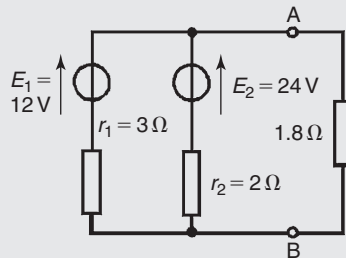
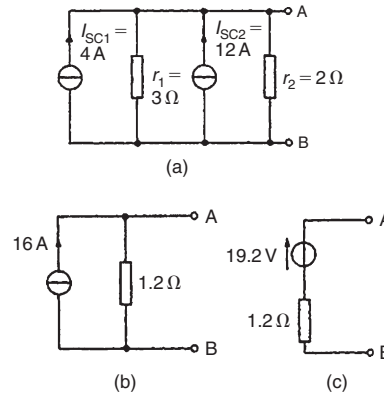

Figure 13.72
Figure 13.73
**Problem 20.** (a) Convert the circuit to the left of terminals  $AB$  in Fig. 13.72 to an equivalent Thévenin circuit by initially converting to a Norton equivalent circuit. (b) Determine the current flowing in the  $1.8\Omega$  resistor.
$I_{SC} = 12/3 = 4 \text{ A}$  and  $r_1 = 3\Omega$ . For the branch containing the 24V source, converting to a Norton equivalent circuit gives  $I_{SC2} = 24/2 = 12 \text{ A}$  and  $r_2 = 2\Omega$ . Thus Fig. 13.73(a) shows a network equivalent to Fig. 13.72
From Fig. 13.73(a) the total short-circuit current is  $4 + 12 = 16 \text{ A}$  and the total resistance is given by  $(3 \times 2)/(3 + 2) = 1.2\Omega$ . Thus Fig. 13.73(a) simplifies to Fig. 13.73(b). The open-circuit voltage across  $AB$  of Fig. 13.73(b),  $E = (16)(1.2) = 19.2 \text{ V}$ , and the resistance ‘looking-in’ at  $AB$  is  $1.2\Omega$ . Hence the Thévenin equivalent circuit is as shown in Fig. 13.73(c).
(b) When the  $1.8\Omega$  resistance is connected between terminals  $A$  and  $B$  of Fig. 13.73(c) the current  $I$  flowing is given by